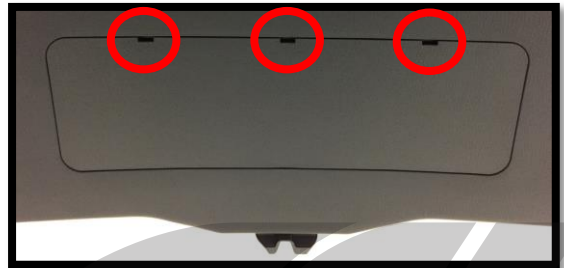

Figure 4a
a) Open the rear hatch and locate the access panel on its underside. Shown in **Figure 4a**.
b) Using a larger screwdriver, remove the access panel. Gently pry in the locations circled in **Figure 4a**. Once these locations are loosened, the access panel can be removed from the remaining tabs by gently pulling.